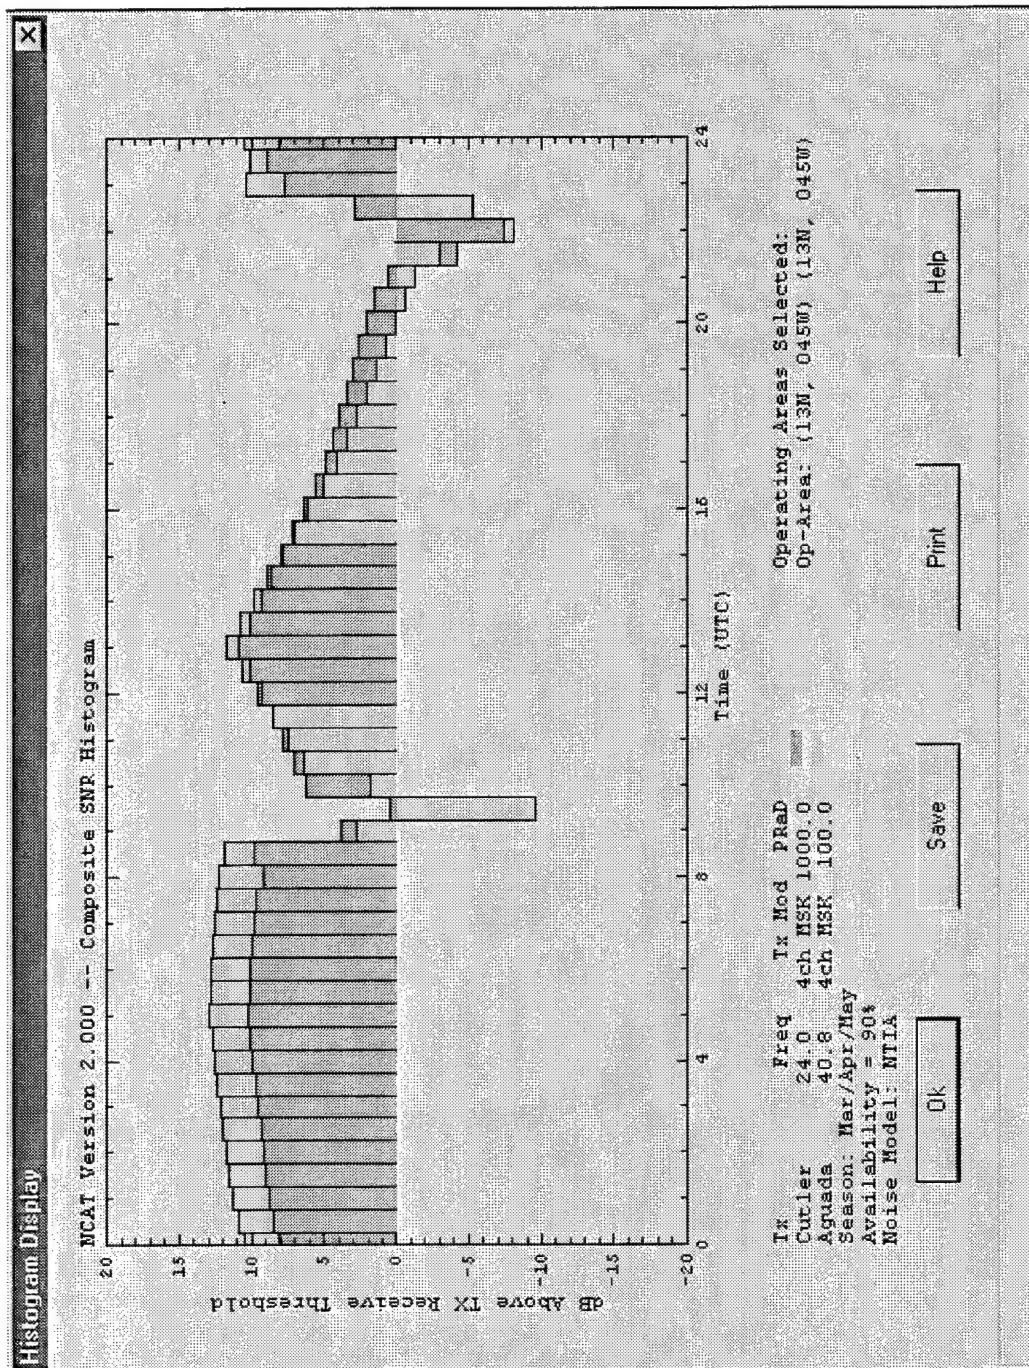

Figure 22. Example of a composite SNR plot.
- A composite SNR plot of the selected operating areas and transmitters selected. To perform a composite plot, select Run Scenario-> Show SNR Composite... Figure 22 is an example of a composite SNR chart is shown in figure 22.